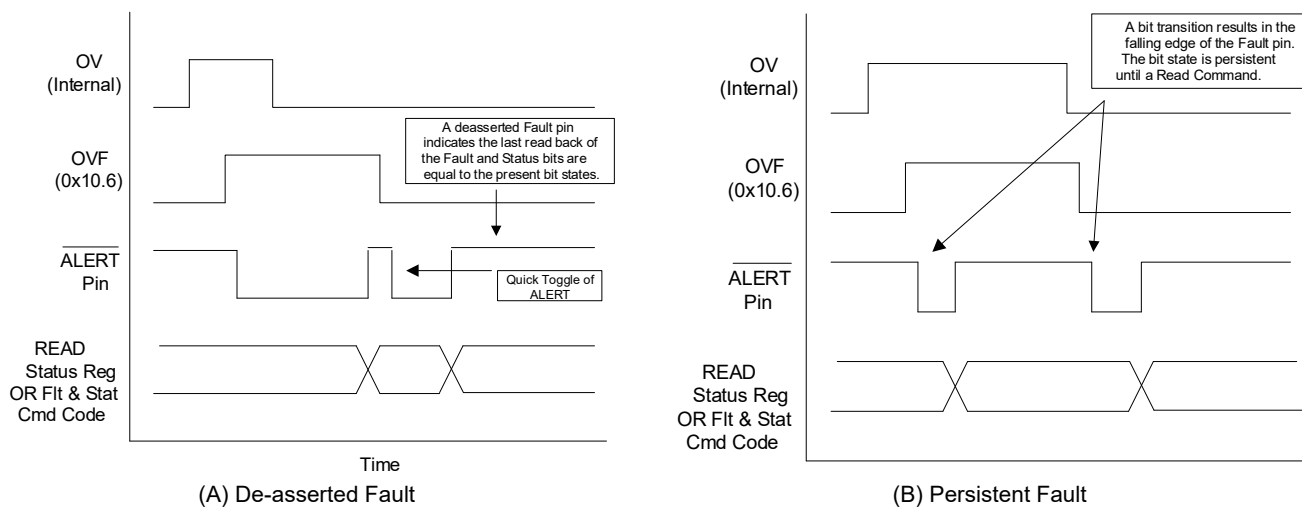

Figure 34. Fault Timing Diagrams
Figure 34 shows timing diagrams for different Fault or Status bit sequencing scenarios. Figure 34(A) shows an example of two fault or status changes before a read. In this case, an OV detection sets OVF then the OV clears before a read. Each OVF and OV clearing causes a separate assertion of the ALERT pin. Figure 34(B) is an example of single persistent fault or status bit change, each followed a read that releases ALERT.